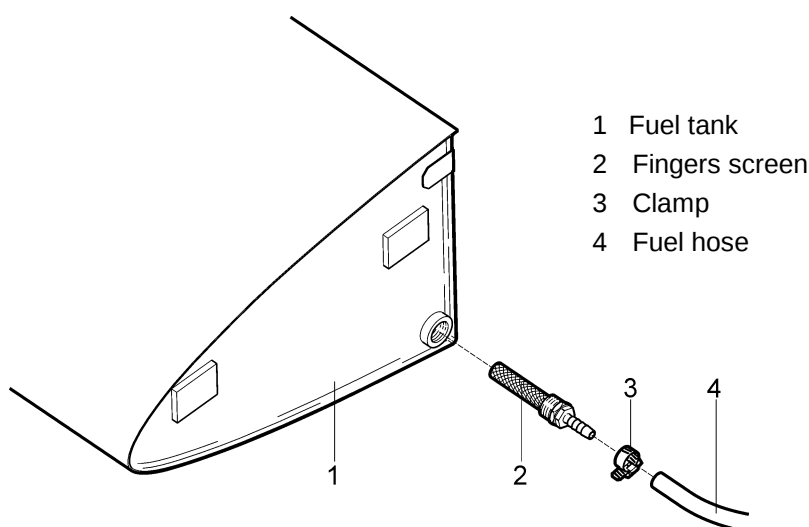

Fig. 9-5: Finger screen removal / installation
- (c) Remove the hose clamp (3, Fig. 9-5) and disconnect the fuel hose (4).
- (d) Remove the finger screen (2).
- (a) Screw the finger screen (2, Fig. 9-5) into the root tank rib – use LOCTITE 565 or equivalent sealant on finger screen thread.
- (b) Connect fuel hose (4) on the finger screen; tighten the hose clamp (3).